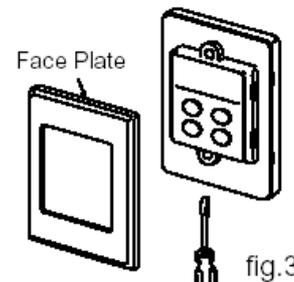

fig.3
4. Remove the face plate from the controller using a flat screwdriver. Take care not to damage the cover (fig. 3.)
4. Cut the spade connectors from two controller cables (4 connectors should be cut off) and discard. Connect the wires and terminate into two new spade connectors as shown in fig. 3.